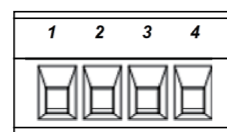

Figure 5-27
- 3) Connect one On-Grid three-phase inverter (Figure 5-27): The local address needs to be set as "001" on the inverter screen, and meter1 address set as "001", meter2 address set as "002". The address of meter1 itself needs to be set to "001", and meter2 needs to be set to "002".